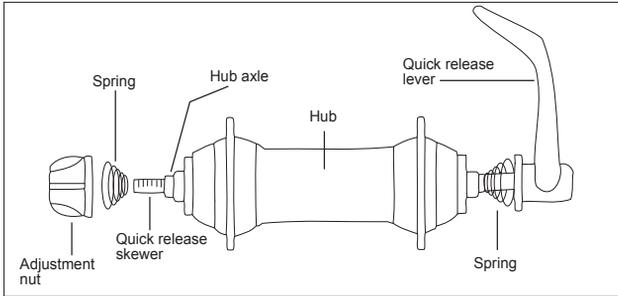
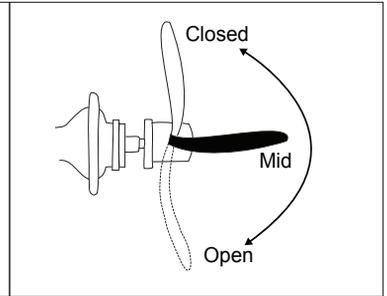

Fig. 56: Traditional quick release; diagram of parts.
Fig. 57: Positions of a quick release.
- Traditional quick-release (rear wheel, Fig. 56).
1. Move the quick release lever to the OPEN position (Fig. 57) and set the wheel so it fully engages the frame dropouts.
2. With the lever in the MID position (Fig. 57), tighten the adjusting nut (Fig. 56) until it is slightly tight.
3. Move the quick release into the closed position (Fig. 57) with the palm of your hand.
1. Open quick release lever (Fig. 57).